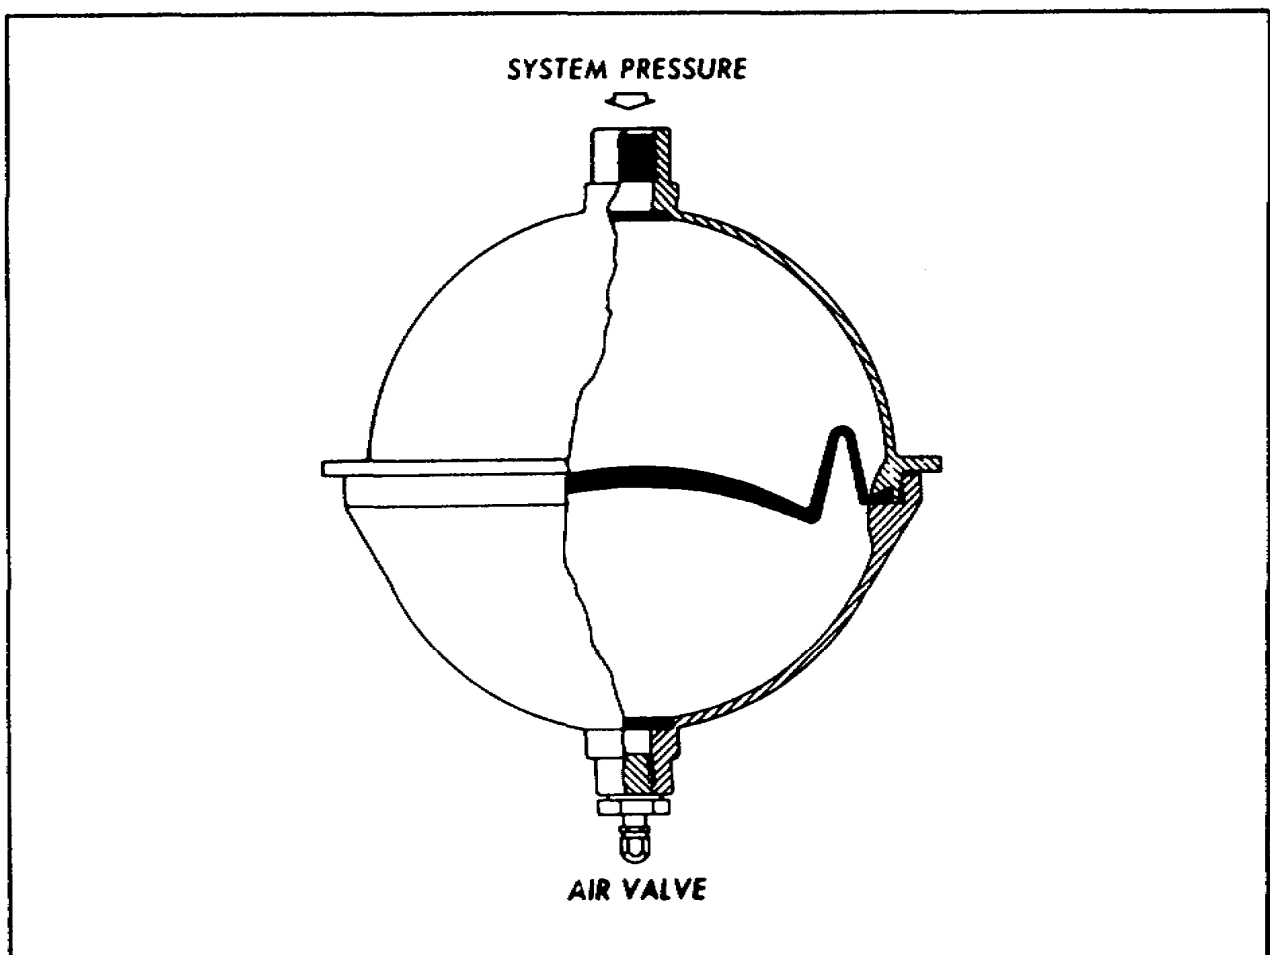

Figure 1-10. Diaphragm Accumulator.
**Diaphragm Accumulator.** The diaphragm accumulator consists of two hollow, hemispherical metal sections bolted together at the center. Notice in Figure 1-10 that one of the halves has a fitting to attach the unit to the hydraulic system; the other half is equipped with an air valve for charging the unit with compressed air or nitrogen. Mounted between the two halves is a synthetic rubber diaphragm that divides the accumulator into two sections. The accumulator is initially charged with air through the air valve to a pressure of approximately 50 percent of the hydraulic system pressure. This initial air charge forces the diaphragm upward against the inner surface of the upper section of the accumulator.